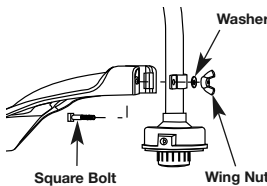

Fig. 2
5. Put the washer onto the square bolt (Fig. 2).
6. Screw the wing nut onto the square bolt until the cutting head shield is firmly in place (Fig. 2).